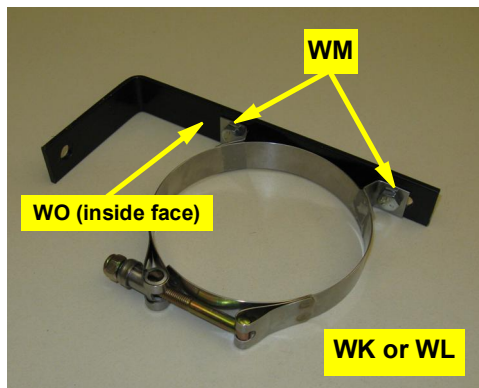

Figure 2d: Assembled clamp and rod bracket
- d. Using hardware **WM**, attach clamp **WK** (or **WL** - depending on the diameter of the steering cylinder) to the inside face of the long side of rod bracket **WO** (Figure 2d).